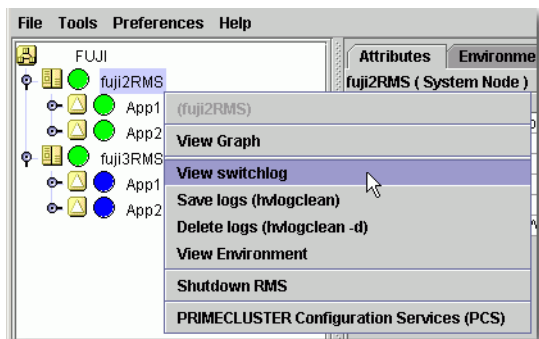
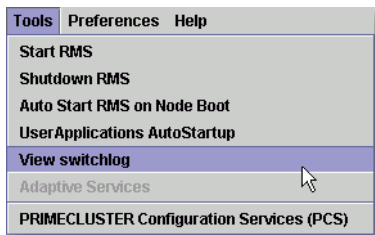

Figure 1: Viewing the RMS switchlog file using a context menu
Figure 2: Viewing the RMS switchlog file using the Tools menu
- ▶ Right-click on the system node and select *View Switchlog* from the pop-up context menu (Figure 1). Alternatively, select a node and use *Tools -> View switchlog* (Figure 2).